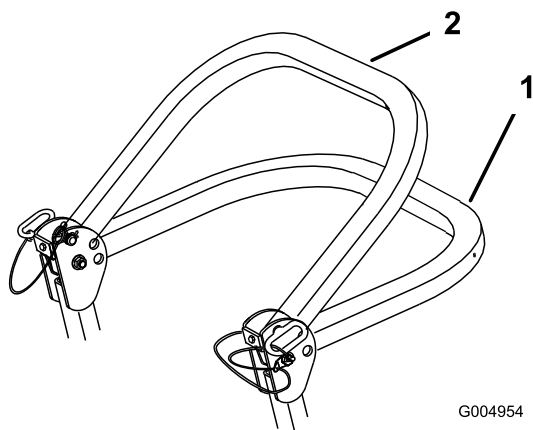

Figure 9
2. Lower the roll bar to the down position. There are two down positions. See Figure 9 for the positions.